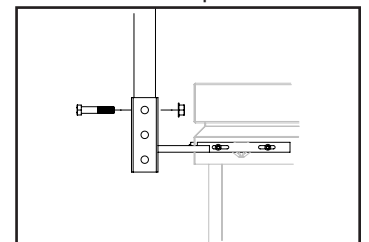

FIG. 2
3. Install vertical post into corner bracket, using 1/2"-13 x 2-1/2" bolts & 1/2"-13 flange nut. Select one of the three mounting positions in the corner bracket so that the top rail resides at 42" above the walking surface, to insure code compliance. Install all 4 vertical posts. (Fig. 2)